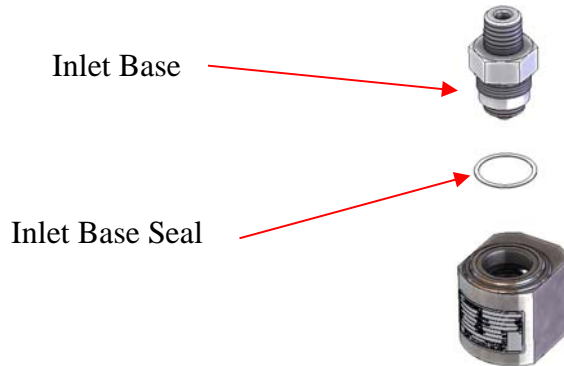

Figure 15: Inlet Base and Inlet Base Seal
14. Remove and discard the inlet base seal. See Figure 15.